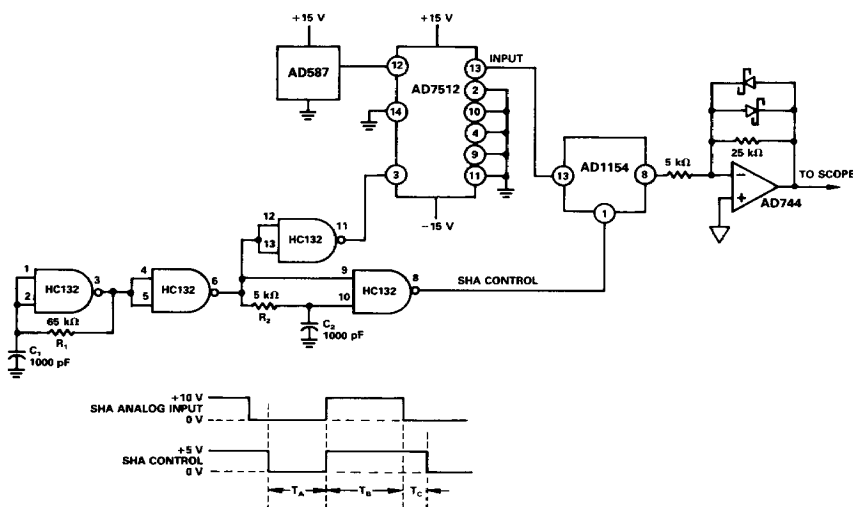

Figure 10. Dielectric Absorption Measurement Circuit
Figure 10 shows a circuit suitable for measuring the dielectric absorption of sample/hold amplifiers. The circuit operates as follows:  $R_1$  and  $C_1$  set the frequency of the SHA control;  $R_2$  and  $C_2$  set the amount of acquisition time allowed for the SHA. See the timing diagram of Figure 10.
1. Adjust the D.A. measurement circuit (see Figure 10) to represent a typical sampling rate.